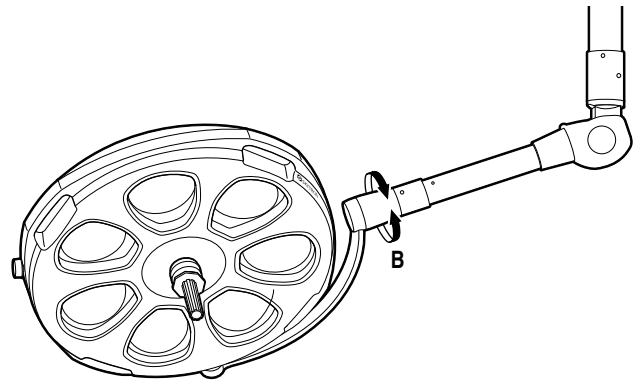

Figure 2-4. Model 29 Lighthouse Roll
a. Check the roll axis tension of the model 29 lighthouse by moving it through its full 360° range of travel. See figure 2-4.